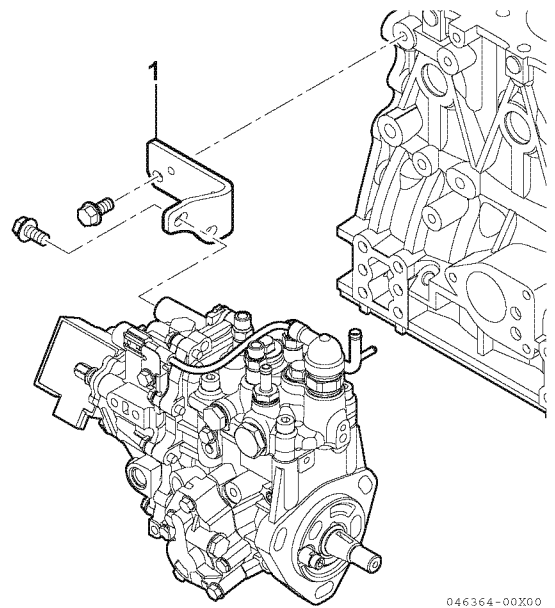

Figure 7-25
6. Reinstall the steady rest (1, Figure 7-25) to the fuel injection pump. Tighten the rear support bolts.